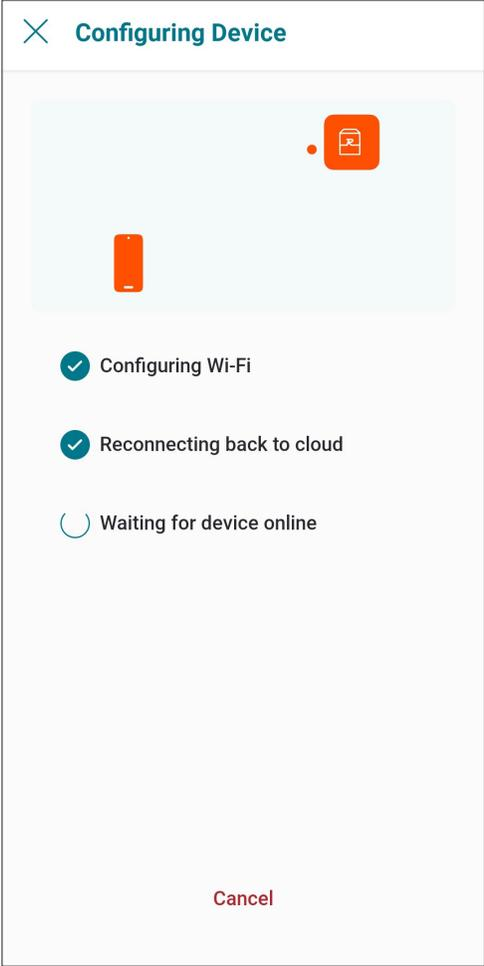

Figure 78. Configuring Device
7. Raymote app will provide the Wi-Fi credentials to your unit. This process may take a few seconds. See Figure 78.